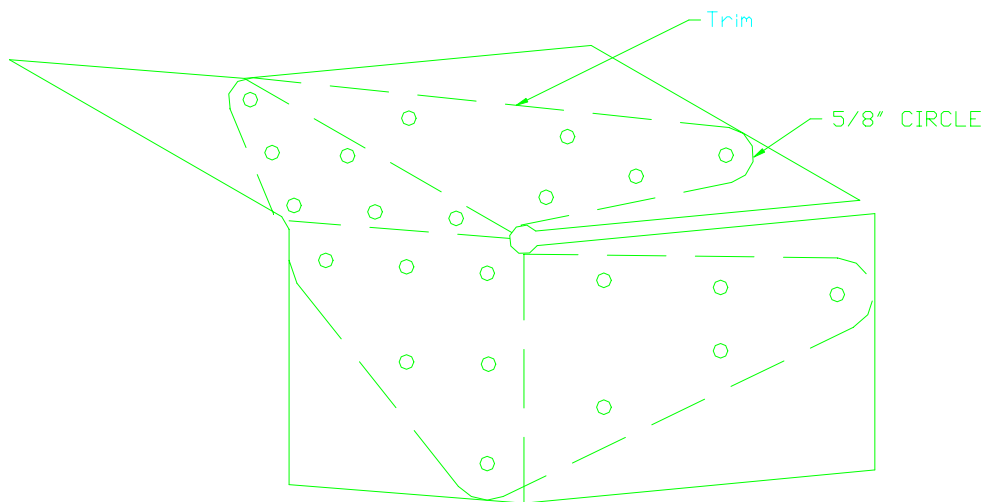

Figure 9.14.4
- 6) Join the circles and trim. Figure 9.14.4.